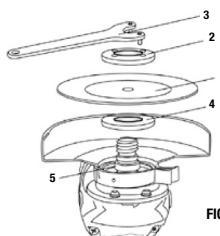

FIG. 5
- Depress the spindle lock button (1) and rotate the clamp nut (2) until spindle locks (Fig. 5).